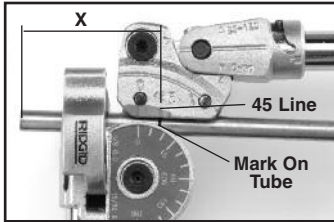

Figure 10 – Before
- Mark the tube at the desired distance (X) from the feature (end of tube, bend, etc.). The center of the arc segment will be this distance from the feature.
- Align the mark on the tube with the 45° line on the Carriage (see Figure 10).